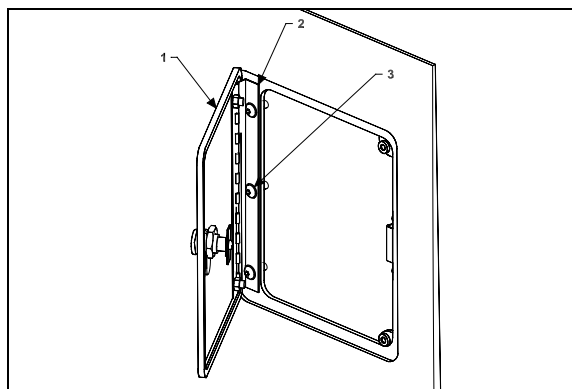

FIGURE 91: FUEL FILLER DOOR
1. Open the fuel filler door (1, Figure 91).
2. Loosen the screws (3, Figure 91) holding the panel to hinge (2, Figure 91) assembly.